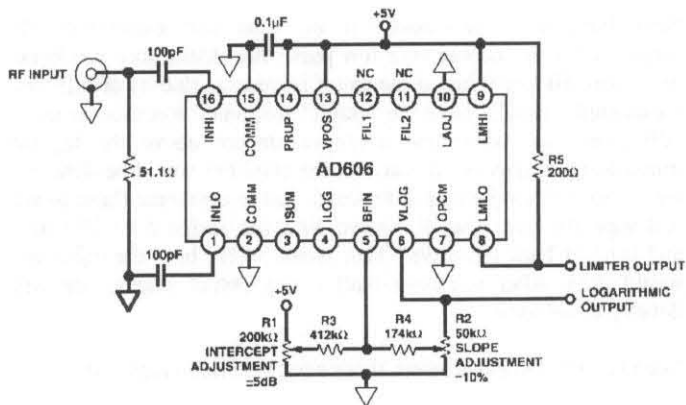

Figure 1 Basic circuit for the AD606.
If you want to build a simple microwattmeter, all you need is the AD606 and its data sheet (1).¹ The AD606 is a logarithmic amplifier/detector that has an input range of -75 to +5 dBm. The input is converted into a logarithmic output voltage of approximately 0.5 to 3.5 VDC. The specs say the chip can be used to over 50 MHz. The chip has a 200mV limiter output for determining input frequency. The Analog Devices data sheet shows a basic application (Figure 1) that requires only nine other parts. Even this simple circuit will allow you to use the AD606 as a logarithmic detector in combination with a sweep oscillator to determine filter characteristics or to measure the output level of oscillators.